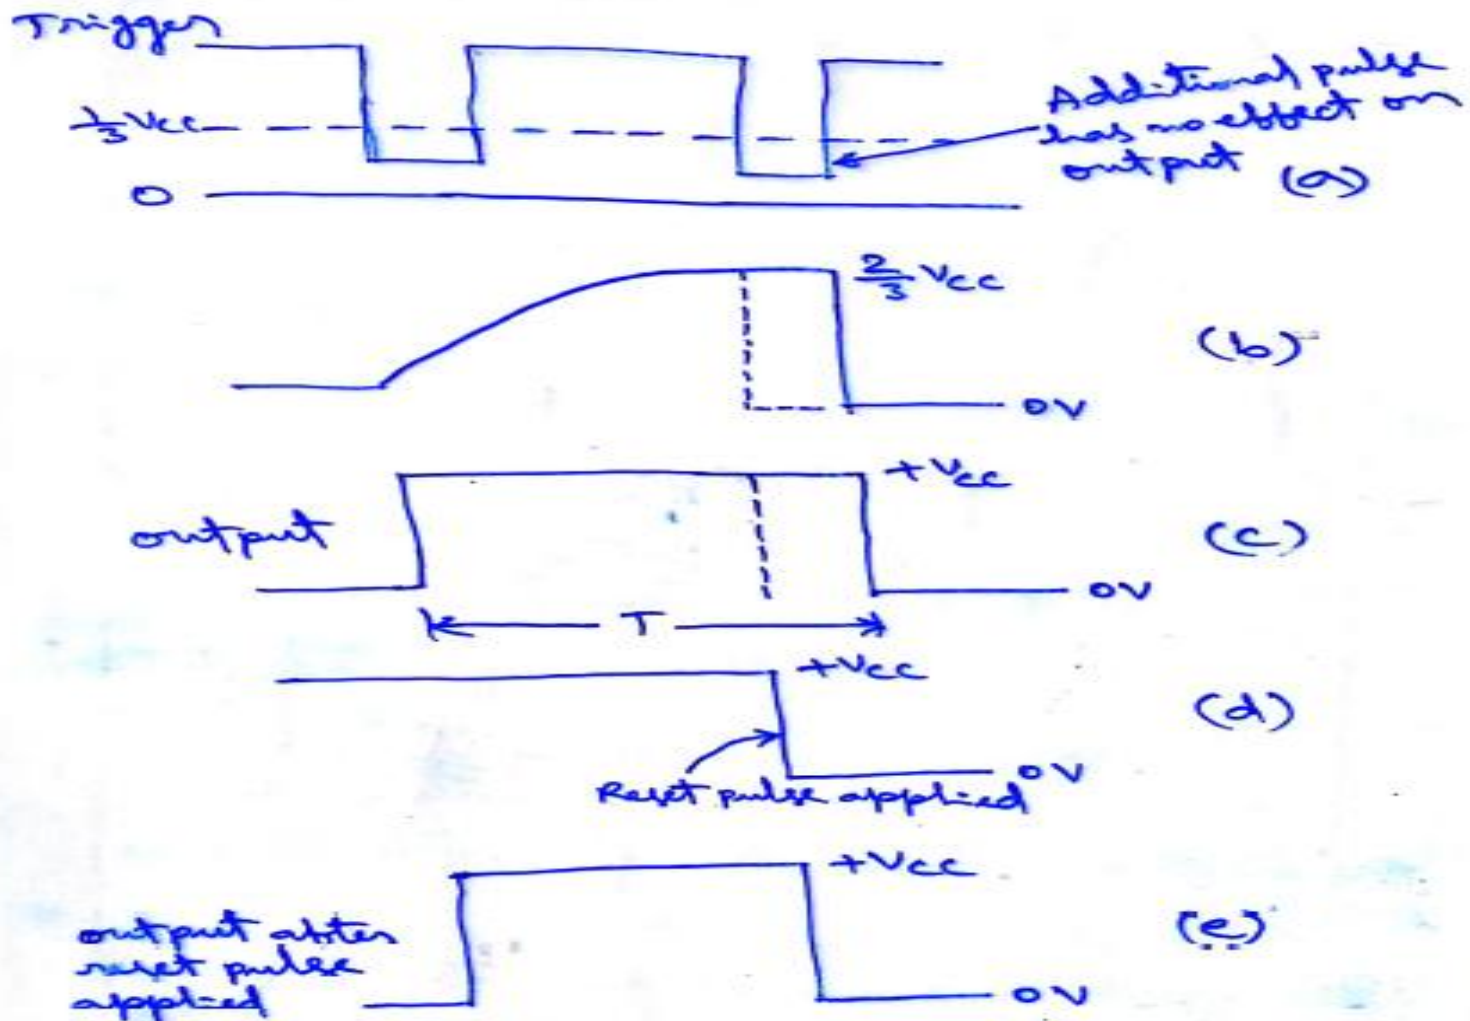

Fig 8-5. Timing pulses.
- Since C is unclamped, voltage across it rises exponentially through R towards V_{cc} with a time constant RC as in Figure 8.5 b.
- It is evident from Eq(1) that the timing interval is independent of the supply voltage. It may also be noted that once triggered, the output remains in the HIGH state until time T elapses, which depends only upon R and C. Any additional trigger pulse coming during this time will not change the output state.
- However, if a negative going reset pulse as in Figure 8.5 d is applied to the reset terminal during the timing cycle, transistor Q2 goes off, Q1 becomes on and the external timing capacitor C is immediately discharged. The output now will be as in Figure 8.5 e.